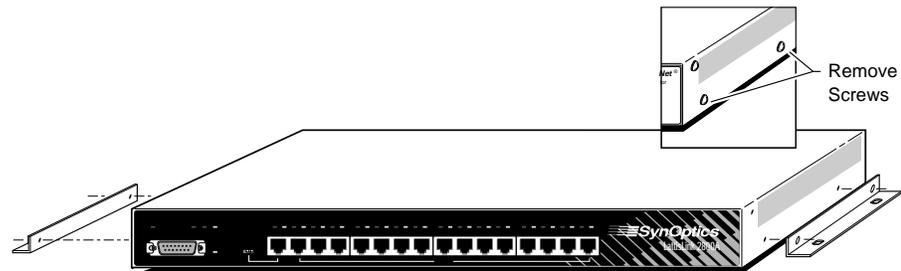

Figure 2-9. Attaching Brackets for Wall Mounting
- a. Using a #1 Phillips screwdriver, remove the two bottom screws on each side (see Figure 2-9).
- b. Hold a mounting bracket against each side of the concentrator where you removed the screws, as shown in Figure 2-9, and align the countersunk screw holes in the bracket with the bracket mounting holes in the concentrator.
- c. Insert two #4-40 x 5/16" flat-head screws through each bracket and into the bracket mounting holes in the concentrator cabinet (see Figure 2-9). Using a #1 Phillips screwdriver, tighten the screws to secure each bracket.